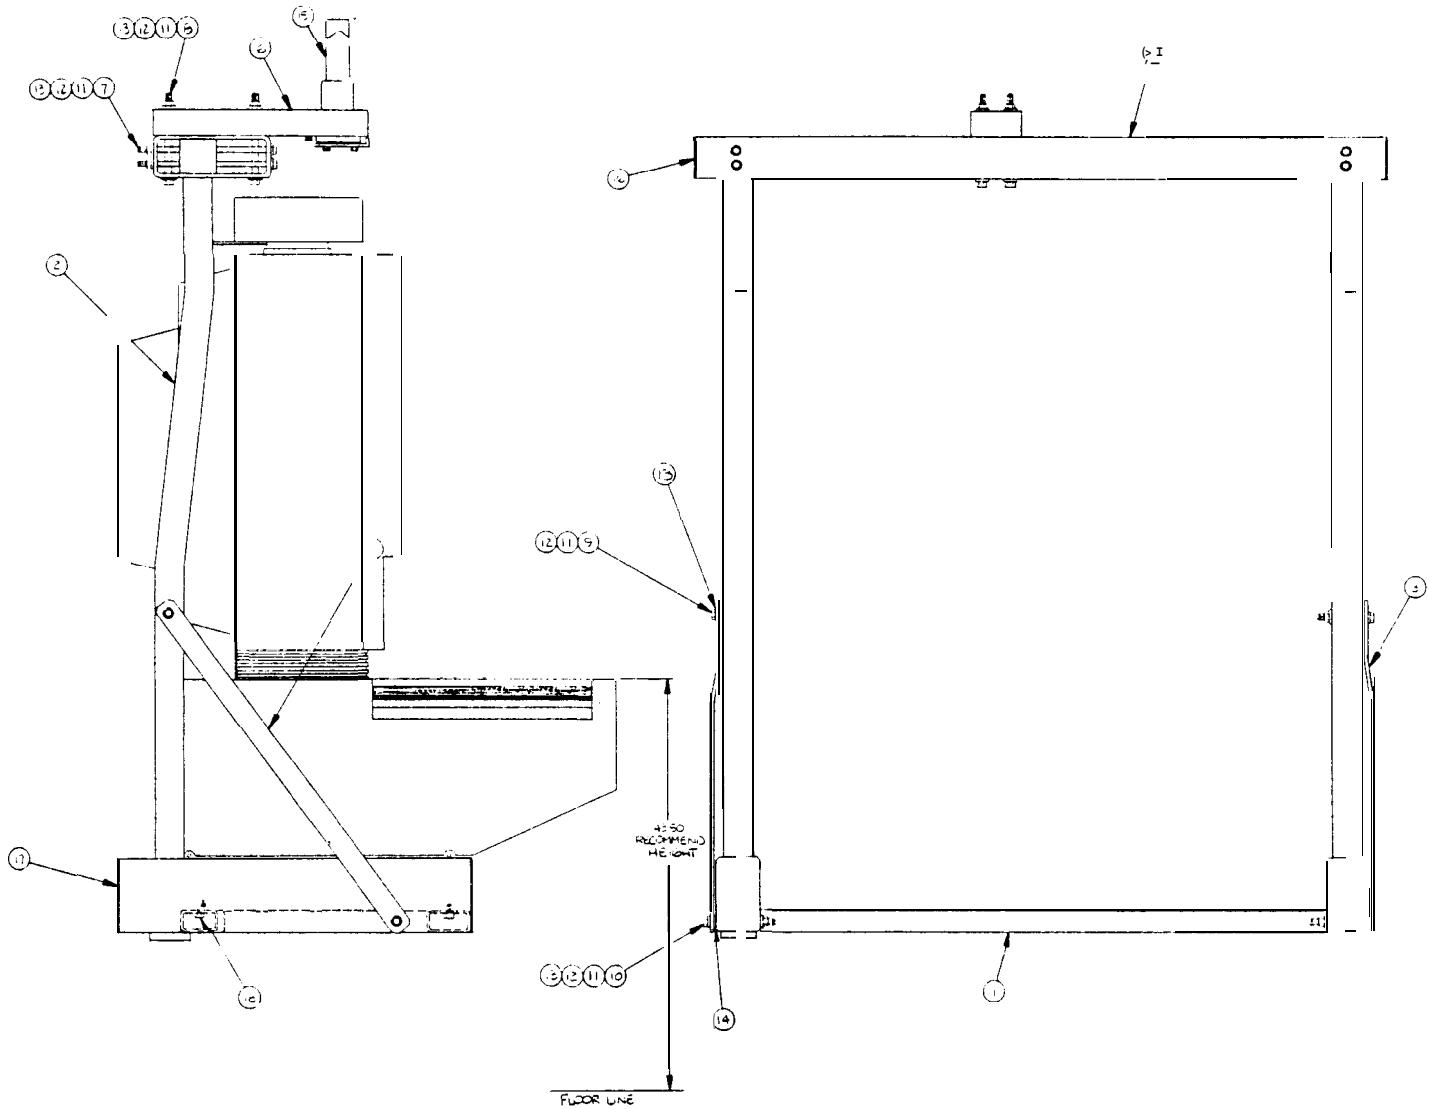

Figure 6
10. Position the MCA-3000 on the Base Weld Assy. and align the mounting holes in the bottom of the MCA with those in the Base. Install 4 bolts item 18 into MCA.
11. Lower the MCA with Base Weld Assy on to its back and install the two Suspension Tube Weld Assy. item 2 into the holes in the Base. Return the MCA to the upright position.
12. Install the two Suspension Brackets item 3 to the Suspension Tubes and Base using a 3" bolt item 9 in the tube and a 4" bolt item 10 in the base. Please pay attention to the positioning of the offsets and bends in the brackets and tubes as shown in Figure 6 and make sure to install the spacer item 14 between the Bracket and the Base.